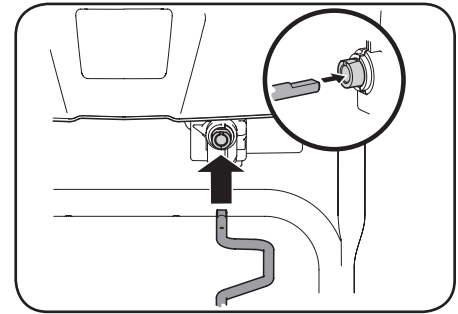

Figure 2-26
3. Insert other end of chute control rod into coupler below handle panel. Make sure to line up flat end of rod and flat end of coupler. You may need to rotate rod around until these two surfaces line up. See Figure 2-26 inset.